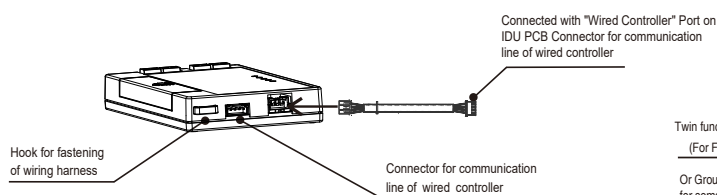

Fig. 1 Connection with indoor unit by connecting cable
① Connection with indoor unit by connecting cable. As shown in Fig.1.